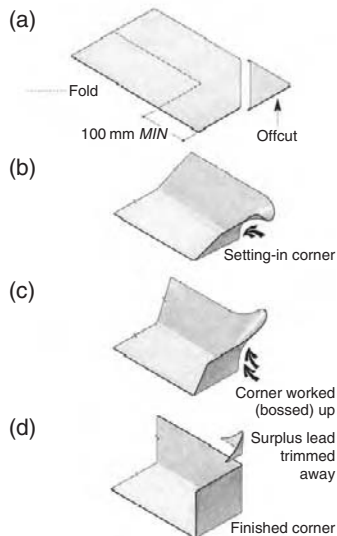

Figure 10.4 (a)–(d) Bossed
- Folding lines are set-in with a setting in stick or dresser and the surplus lead is cutoff (Figure 10.4(a))
- The sides are partly pulled up and the corner is set-in by directing a few blows downwards with a bossing stick to form the base of the corner (Figure 10.4(b))
- The corner is then worked up, a mallet being held on the inside of the angle and the blows from the bossing stick directed from the base of the corner to work up the lead gradually to the top of the corner (Figure 10.4(c))
- Surplus lead forms as the bossing proceeds and this is trimmed off when the required shape and angle of the corner has been reached (Figure 10.4(d)).